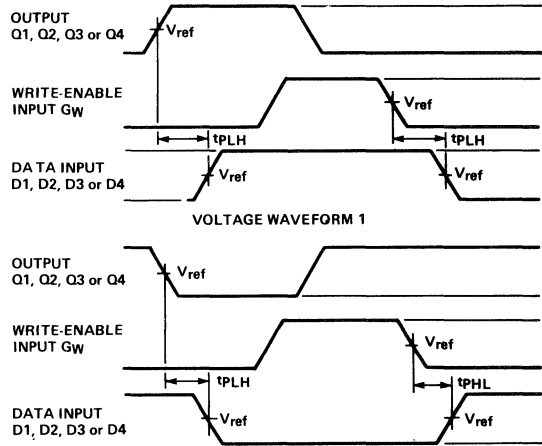

FIGURE 2
- C. In Figure 2, each select address is tested. Prior to the start of each of the above tests, both write and read address inputs are stabilized with  $W_A = R_A$  and  $W_B = R_B$ . During the test  $G_R$  is low.